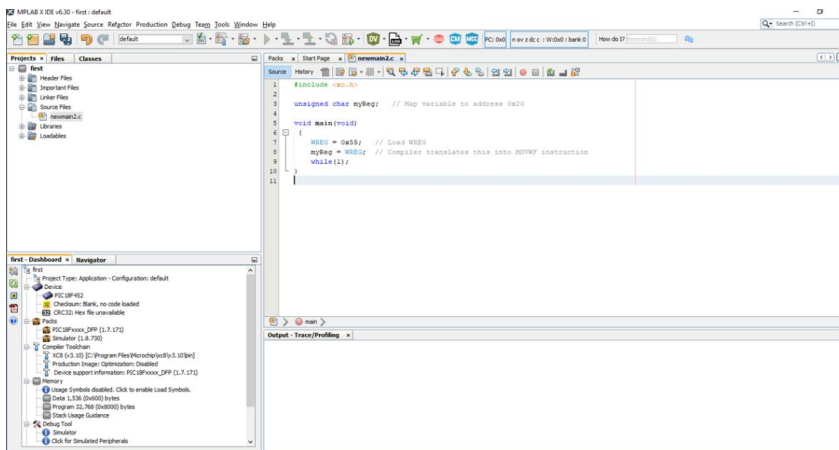

Fig 4.28 Editor - main.c window
24. Enter the required file name, select location and click Finish. An editor window appears where you can enter the required C-Program as shown in Fig 4.28.